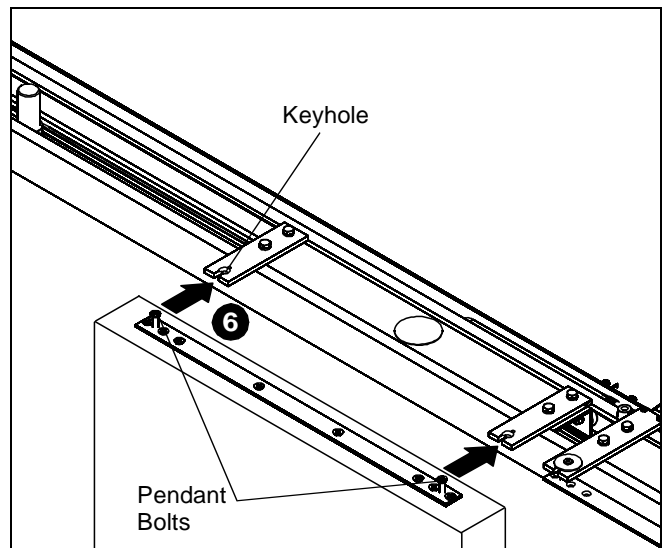

Figure 6
6. Tip top of door in, engaging the pendant bolts into keyhole in carriage arms. (See Figure 6)